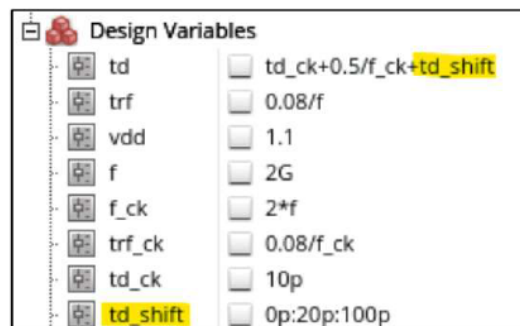

Figure 10. Setup parameters to measure intrinsic setup/hold time
- Students may refer the setup parameters shown in **Figure 10**.